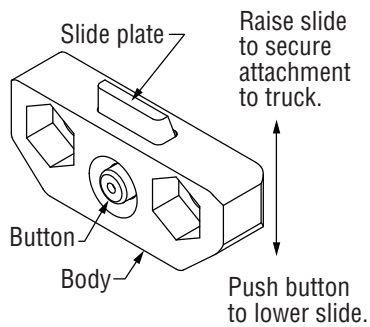

Figure 4-2 Quick Change Hook
2. Remove the lower bolt-on hooks and, if applicable, make a note of any factory installed shims. If quick change hooks are supplied, simply depress the button on the back of the hooks, allowing the slide plate to drop, Figure 4-2.
2. Disconnect the quick mounts to remove the attachment. (Figure 4-2)
3. Slightly raise the truck carriage to allow the removal of the bottom mounting hooks. If the attachment is equipped with button-type quick change hooks, press the slide plate release button and drop the slide plate down (Figure 4-2). If the attachment is equipped with pin-type quick change hooks, remove the retaining pin and the quick change hook.